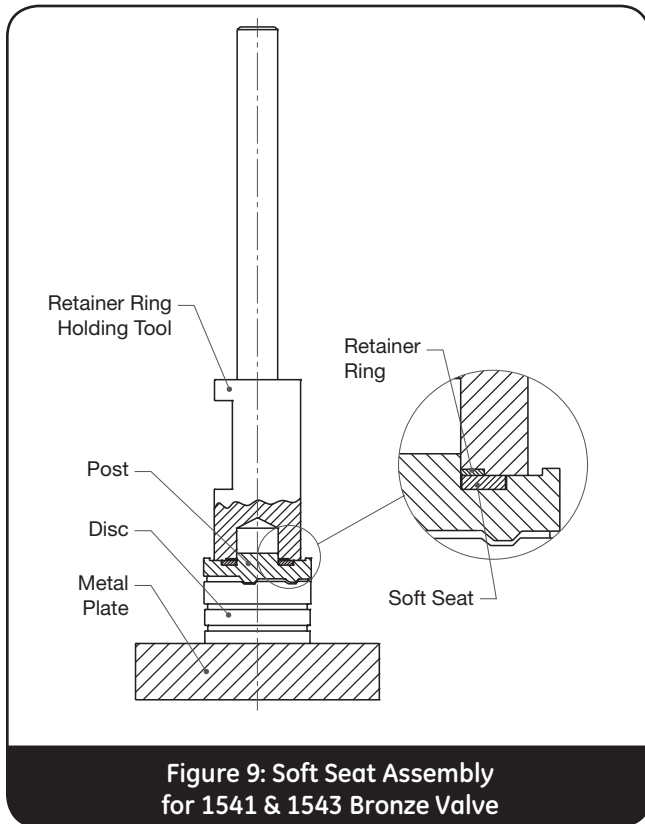

Figure 9: Soft Seat Assembly for 1541 & 1543 Bronze Valve
- a. Clean disc, put it on a metallic plate (See Figure 9). Disc surface having spindle pocket will lie on the metal plate.
(Defective part should be rejected). Put Washer on the Disc (See Figure 9).
- c. Pick-up an appropriate Retaining Ring and tool assembly (See Table 5). Place Retaining Ring on the Disc. Subsequently put tool assembly in the mechanical press (not shown in Figure 9). Provide slight force to position Retaining Ring over the post. After removing force and inspecting proper positioning of Retaining Ring, press the Retaining Ring again, hard enough, to move Retaining Ring down to hold the seat washer tightly. A properly assembled soft seat will be somewhat compressed by Retaining Ring.